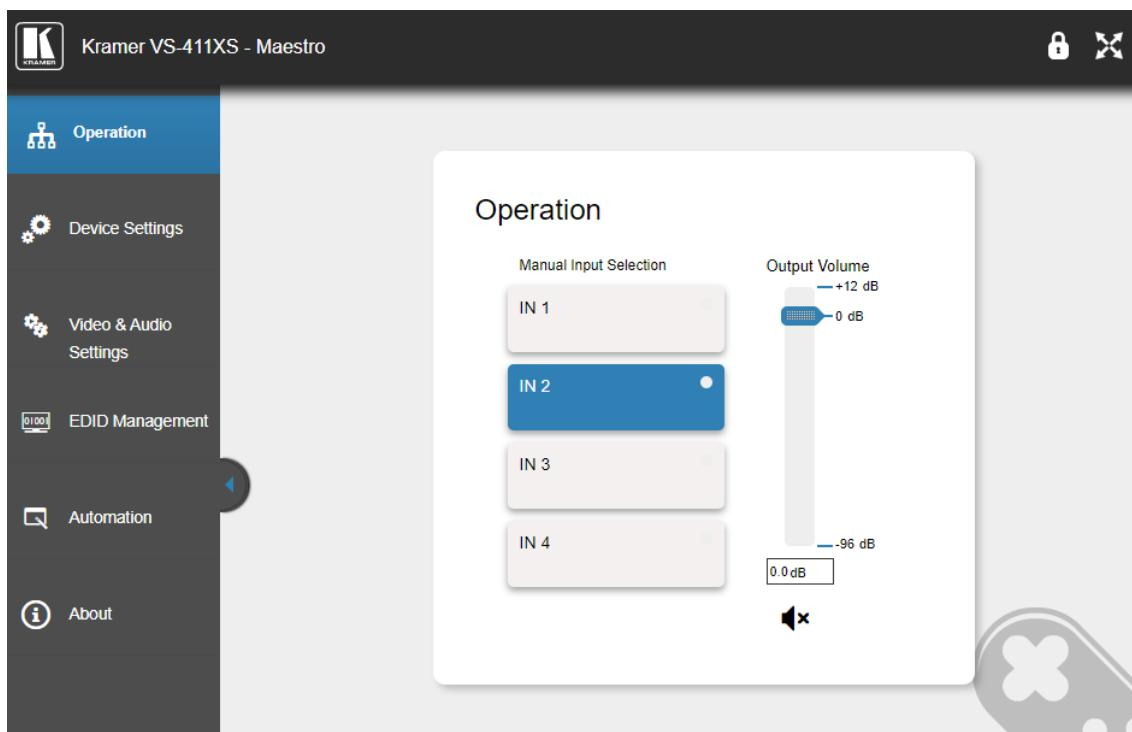

Figure 18: Operation Page with Navigation List on Left
1. Click **Operation** on the Navigation List. The Operation page appears (Figure 18).
The Operation page appears (Figure 18).